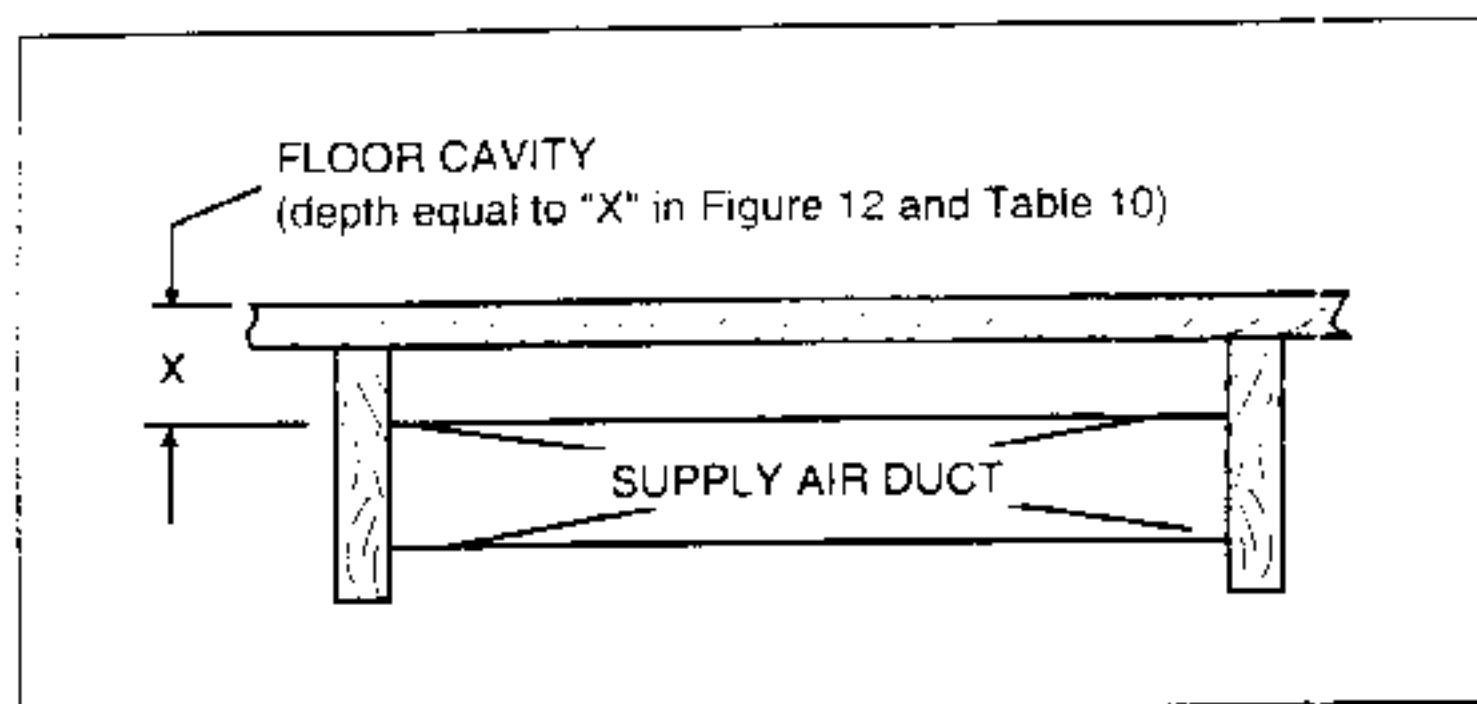

Figure 10.
- Determine depth of floor cavity from surface of floor to top of supply air duct (See Figure 10).